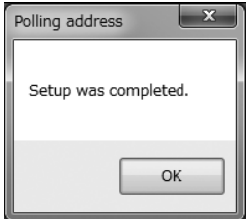

Fig.100
- ④ If the setting is modified from the previous setting, a message box (Fig. 100) will appears. Click "OK" to complete setting.